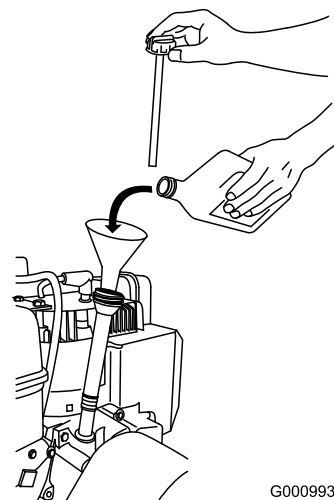

Figure 13
1. Remove the dipstick and **slowly** pour oil into the oil fill tube to raise the oil level to the Full mark on the dipstick. **Do not overfill** (Figure 13).